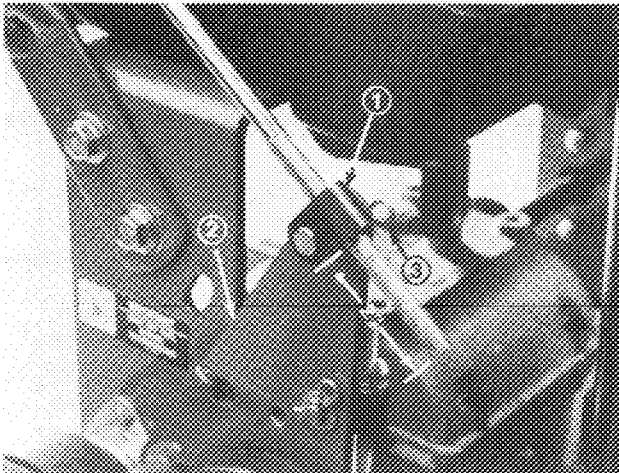
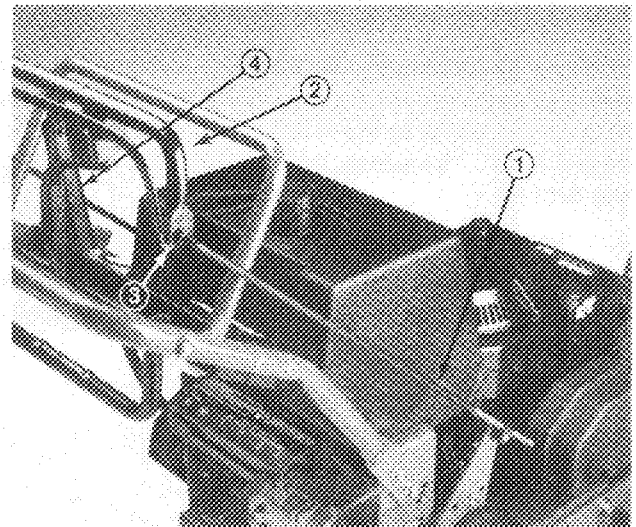

Figure 7
Figure 8
1. Thread a rod fitting onto each control rod approximately 2" (Fig. 7) or until upper control rod (Fig. 8) is perpendicular to ground.
2. Mount rod fitting ends to mounting holes in idler brackets (from outside) with clevis pins, washers and hairpin cottes (Fig. 7).
3. Check gap between control bar and upper handle when fully engaging wheel belts. Gap should be approximately 1 to 1-1/4" (Fig. 8).
5. Brake rods should be adjusted so parking brake lever can be swung into a snug position against the upper handle while pulling back on upper control bar (Fig. 8).